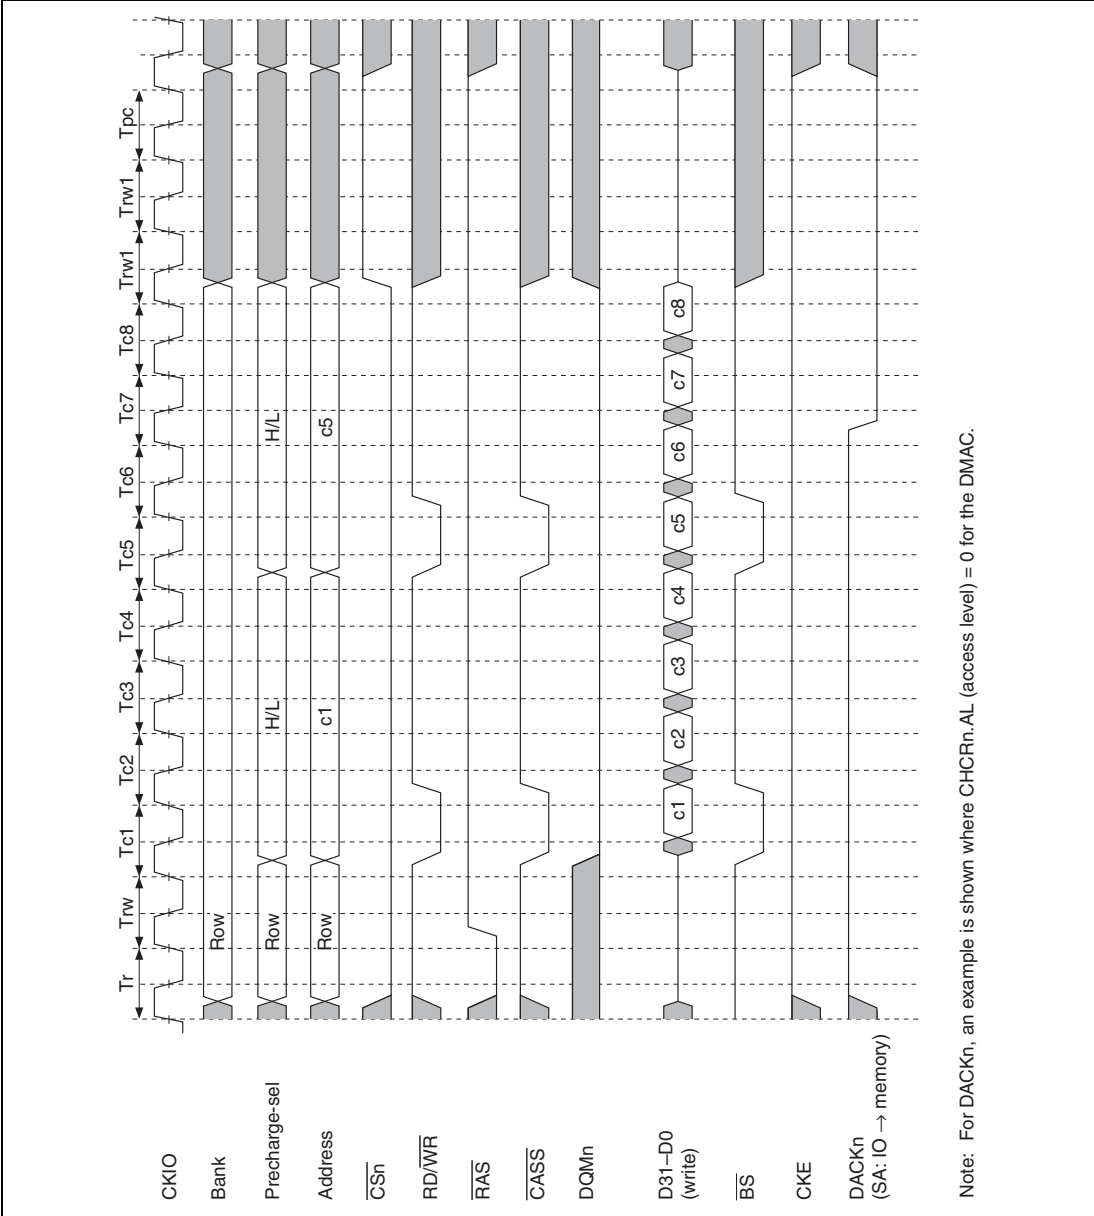

Figure 13.26 Basic Timing for Synchronous DRAM Burst Write
**Burst Write:** The timing chart for a burst write is shown in figure 13.26. In this LSI, a burst write occurs only in the event of 32-byte transfer. In a burst write operation, the WRIT command is issued in the  $T_{c1}$  cycle following the  $T_r$  cycle in which the ACTV command is output and, 4 cycles later, the WRITA command is issued. In the write cycle, the write data is output at the same time as the write command. In the case of the write with auto-precharge command, precharging of the relevant bank is performed in the synchronous DRAM after completion of the write command, and therefore no command can be issued for the same bank until precharging is completed. Consequently, in addition to the precharge wait cycle,  $T_{pc}$ , used in a read access, cycle  $T_{rw1}$  is also added as a wait interval until precharging is started following the write command. Issuance of a new command for the synchronous DRAM is postponed during this interval. The number of